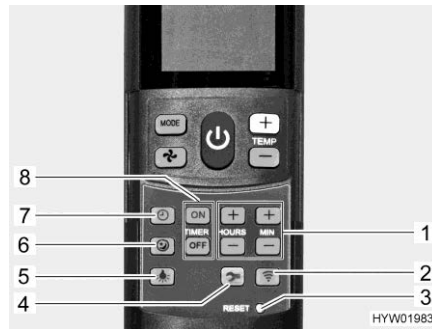

Fig. 172 Remote control with setting buttons (air conditioning unit)
Activating soft-start: ■ Press the soft-start button (Fig. 172,6). The fan then runs at low speed in cooling mode, which makes it especially quiet.
Setting the time: ■ Press the time button (Fig. 172,7).
■ Set the hours and minutes with the buttons (Fig. 172,1).
Programming the switching on time: ■ Press "ON" button (Fig. 172,8).
■ Press the buttons for setting the time (Fig. 172,1) until the desired time span until switch-on is reached.
■ Press "ON" button (Fig. 172,8).
Programming the switch-off time: ■ Press "OFF" button (Fig. 172,8).
■ Press the buttons for setting the time (Fig. 172,1) until the desired time span until switch-off is reached.
■ Press "OFF" button (Fig. 172,8).
Deactivating the timer: ■ Press the "ON" or "OFF" button (Fig. 172,8) again.
Switching on the lighting: ■ Press the light button (Fig. 172,5). The light is switched on at the last set dimming level.
Dimming the lighting: ■ Press the light button (Fig. 172,5) and keep it pressed until the desired brightness is reached.
Switching off the lighting: ■ Press the light button (Fig. 172,5).
- ▷ The Setup button (Fig. 172,4) is used to connect the remote control with the air conditioning unit during first set-up.